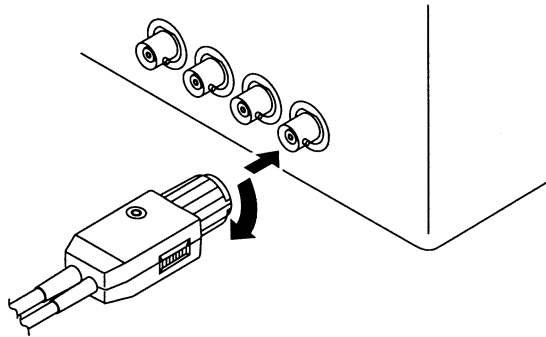

Figure 3 Connecting the Probe to the Oscilloscope
- 6 Connect the probe's output connector to the oscilloscope's input connector as shown in **Figure 3** on page 11. Turn the collar until it clicks, and check that it is locked securely.